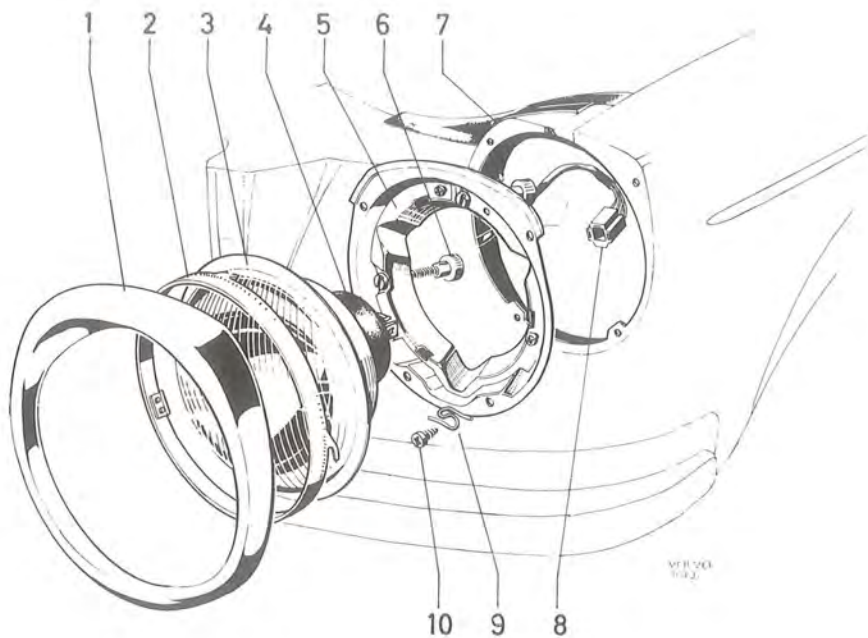

Fig. 3-62. Headlight
7. Adjust the light according to current legislation. Adjustment is made by means of the two adjusting screws, see Fig. 3-62. Use approved light adjusting equipment.
6. Check the lighting adjustment. This is done by means of the two adjusting screws, see Fig. 3-62.
Adjustment is made by varying the two adjusting screws behind the headlight, see Fig. 3-62. The upper screw adjusts the headlight vertically and the screw at the side adjusts the headlight laterally.